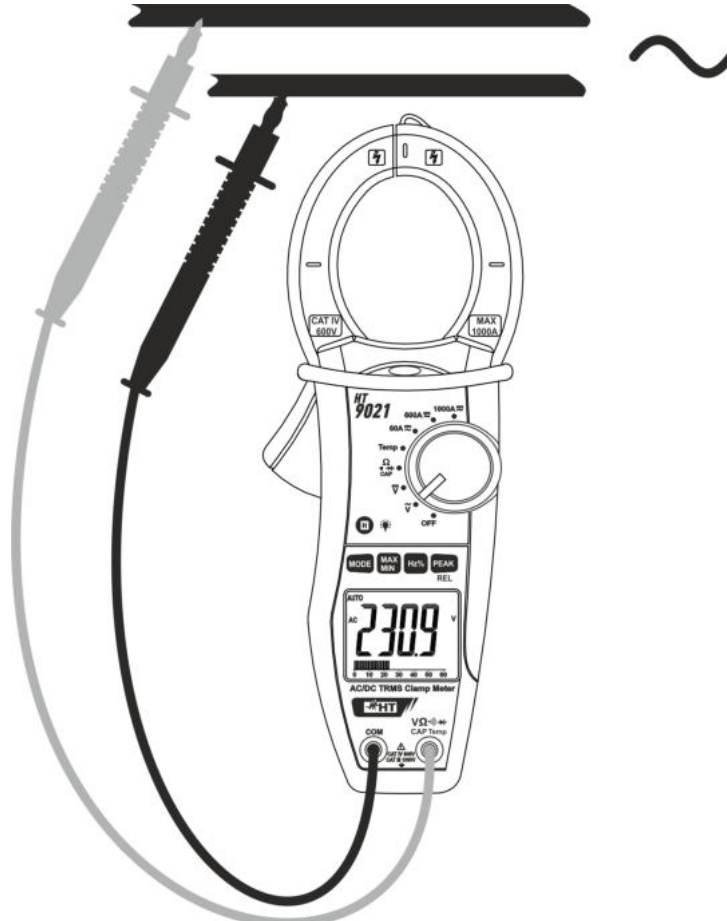

Fig. 3: Taking AC voltage measurements
3. Insert the red test lead plug into **VΩ** jack and the black test lead plug into **COM** jack (Fig. 3)